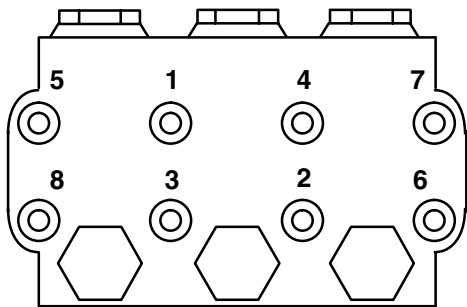

Fig. 3
8. Install the capscrews and washers finger tight. Torque the screws to 22.1 ft-lb (30 N•m) following the tightening pattern in Fig. 3. Uneven tightening can cause the manifold to bind or jam.